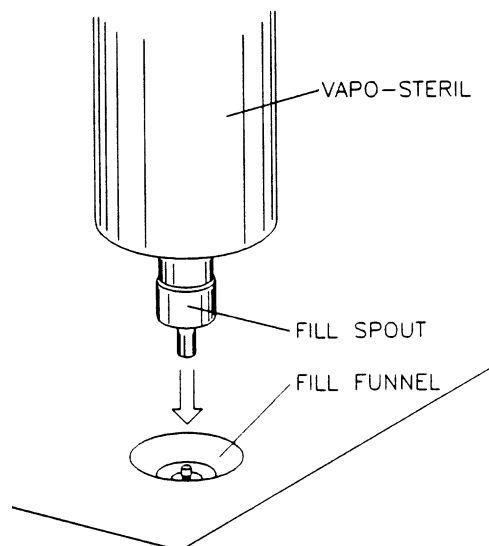

Figure 5: Filling the Vapo-Steril Reservoir
1. Locate the fill funnel (see Figure 5). Remove cap from the fill funnel.
1. Set control knob to DEPRESSURIZE. Do this before turning the sterilizer ON (see Figure 5).